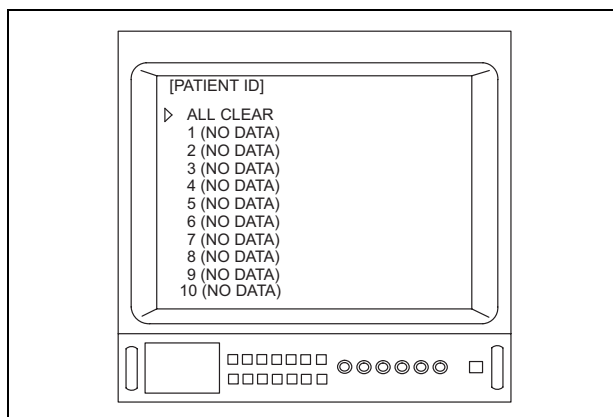

Figure 5.51
7. Depress the menu switch “◀” or the “Enter” key on the keyboard. The patient data are deleted and the menu shown in Figure 5.51 is displayed on the video monitor.